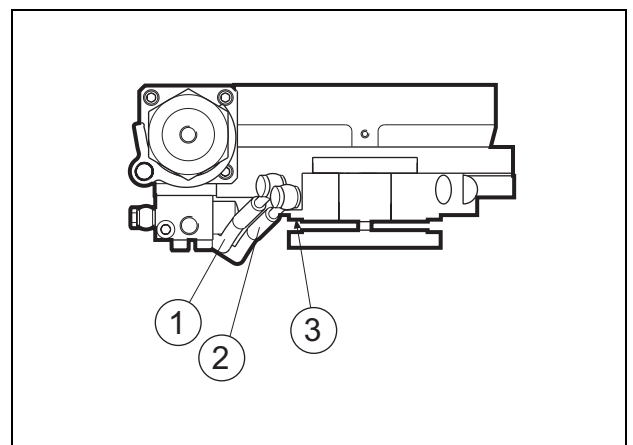

Fig. 52 Replacing hoses
To obtain best hose connection and to avoid unnecessary hose damages the tension hose (2) must be assembled tight towards the flange (3). Also keep the tension hose (2) tight to the recess grooves in the tensioning device and keep the lube oil hose (1) tight to the tension hose. See Fig. 52.